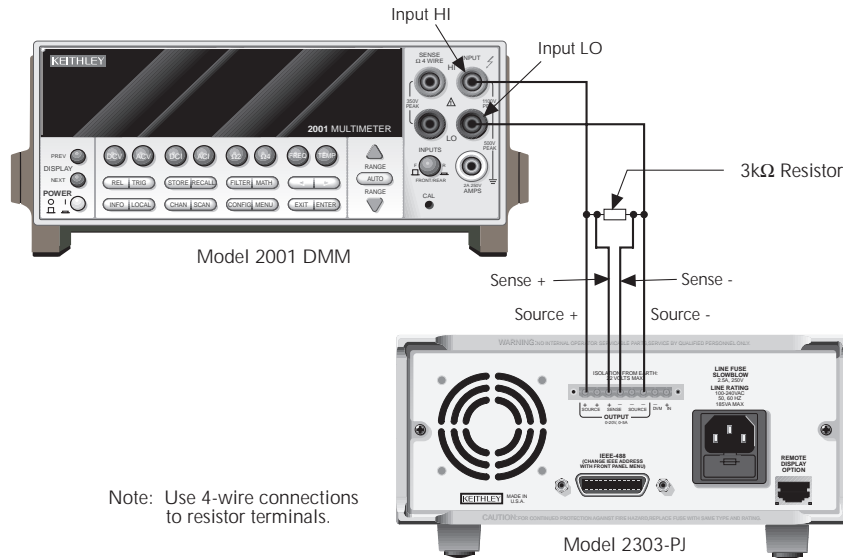

Figure 2-5
15. Disconnect the 4Ω resistor, then connect the characterized 30Ω resistor in its place. (See Figure 2-5.)